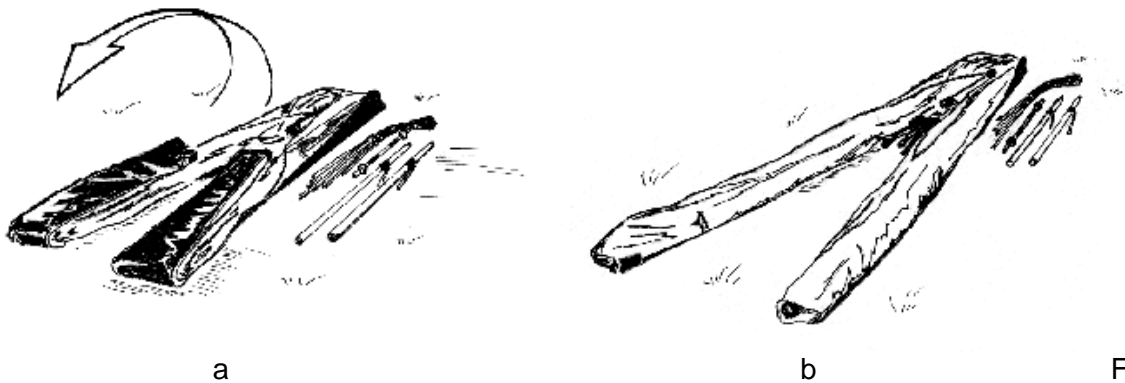

Fig. 1
2.1.4. Unfold the sail along the leading edge (Fig. 1).